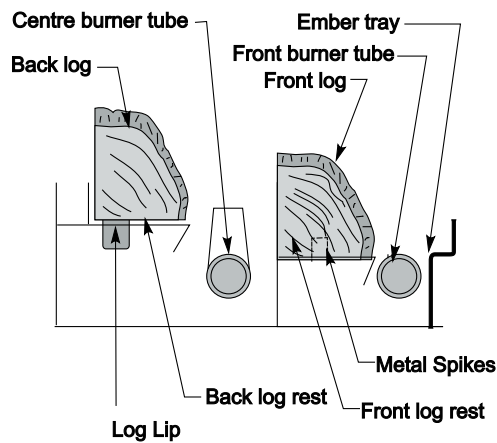

Figure 29. Positioning for the front and back logs.
2. Place the Back log onto the back log rest as shown below in **figure 29**. The log has a lip on the bottom which fits into the slot on the log rest.
3. Place the Front log onto the front log rest as shown in **figure 29**. Center the log from side to side, and push it against the back of the log rest. Carefully push the log onto the metal spikes on the log rest.